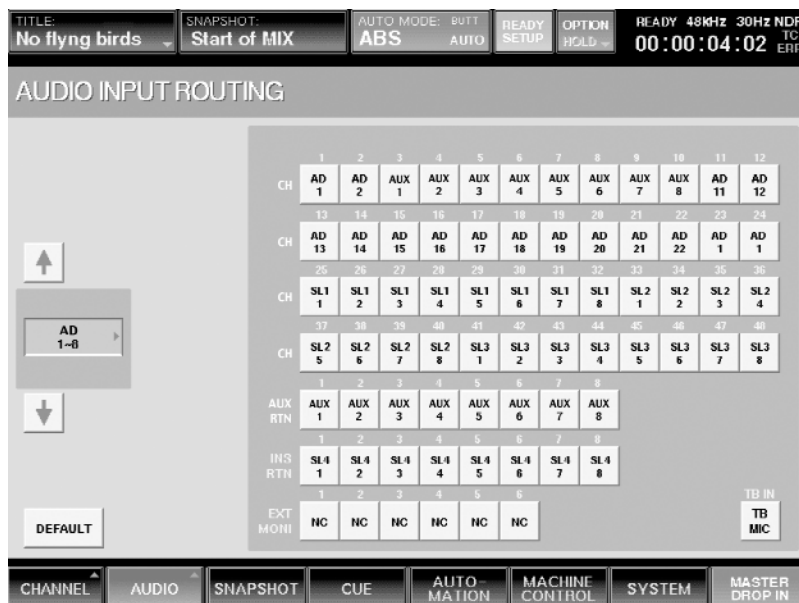

Figure 18
- 6 You can also make input assignments in blocks of 8. To do so, simply press the desired SOURCE button once only, then press the Channel button of the first of 8 channels you wish to make the assignment to. For example, to assign the signal arriving at Aux returns 1 - 8 to channels 3 - 10, press the AUX RET 1-8 Source button once, then press Channel 3. (See Figure 18)